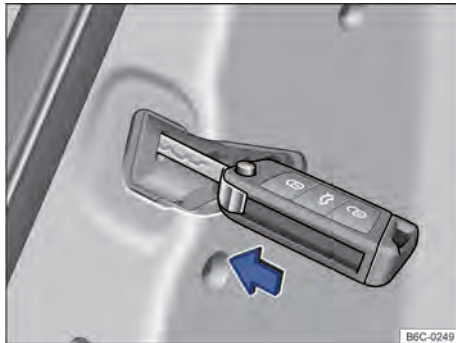

Fig. 59 On the doors, front right and rear: emergency locking of the vehicle with the metallic stem of the key.
- Insert the metal shaft of the wrench into the slot → Fig. 59 and press.